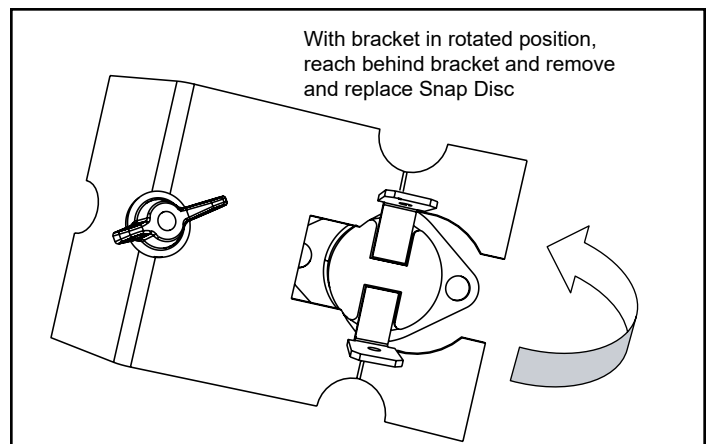

Figure 23.5
10. When bracket is loose enough, rotate the bracket counterclockwise and away from feed tube (**Figure 23.5**).